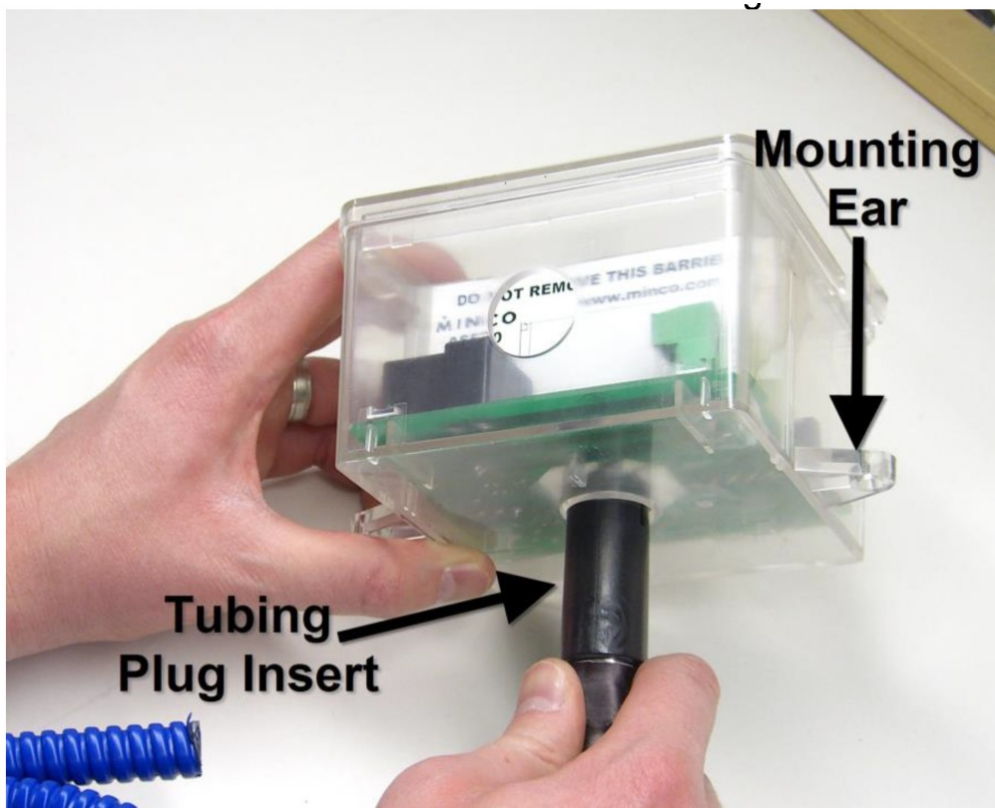

Figure 3 – Connecting insert to enclosure
2. Feed the tubing plug insert through the hole from the inside of the duct. Fit the insert into the desired opening in the enclosure and make sure it snaps into place. See figure 3, below. Secure the enclosure to the panel using the two 0.250" holes located in the mounting ears on the bottom of the box. The enclosure should be mounted such that the mounting ears are to the sides and the high-voltage portion of the controller should be towards the bottom. This orientation can be seen in figures 9 and 10.